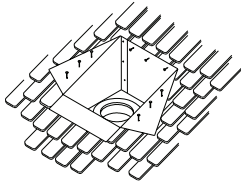

Figure 21
framing with at least three (3) 8-penny nails, or (3) 1-1/2", #8 screws, per side (**Fig.21**). Be sure to keep the Support Box level. Screw the trim sections into the ceiling (**Fig.9**).